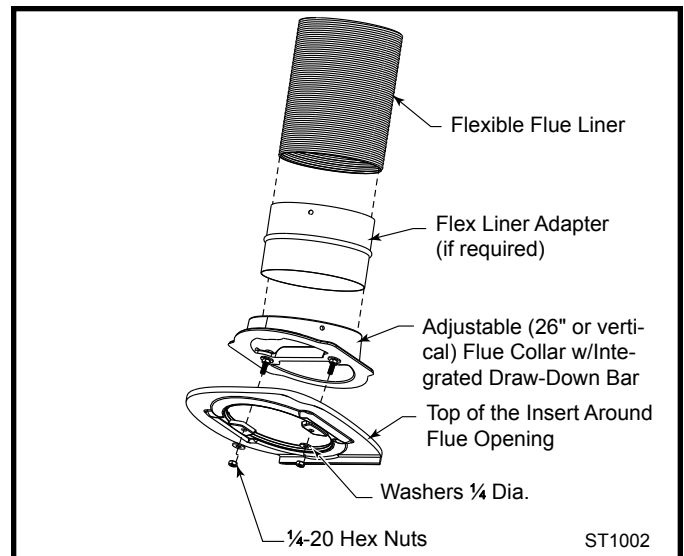

Fig. 6 Components of the venting system.
3. Install the venting system: Again, depending on your application it may be easiest to install the connector or stainless steel flue liner in the chimney first. Refer to Figure 6 for the components of the venting system.